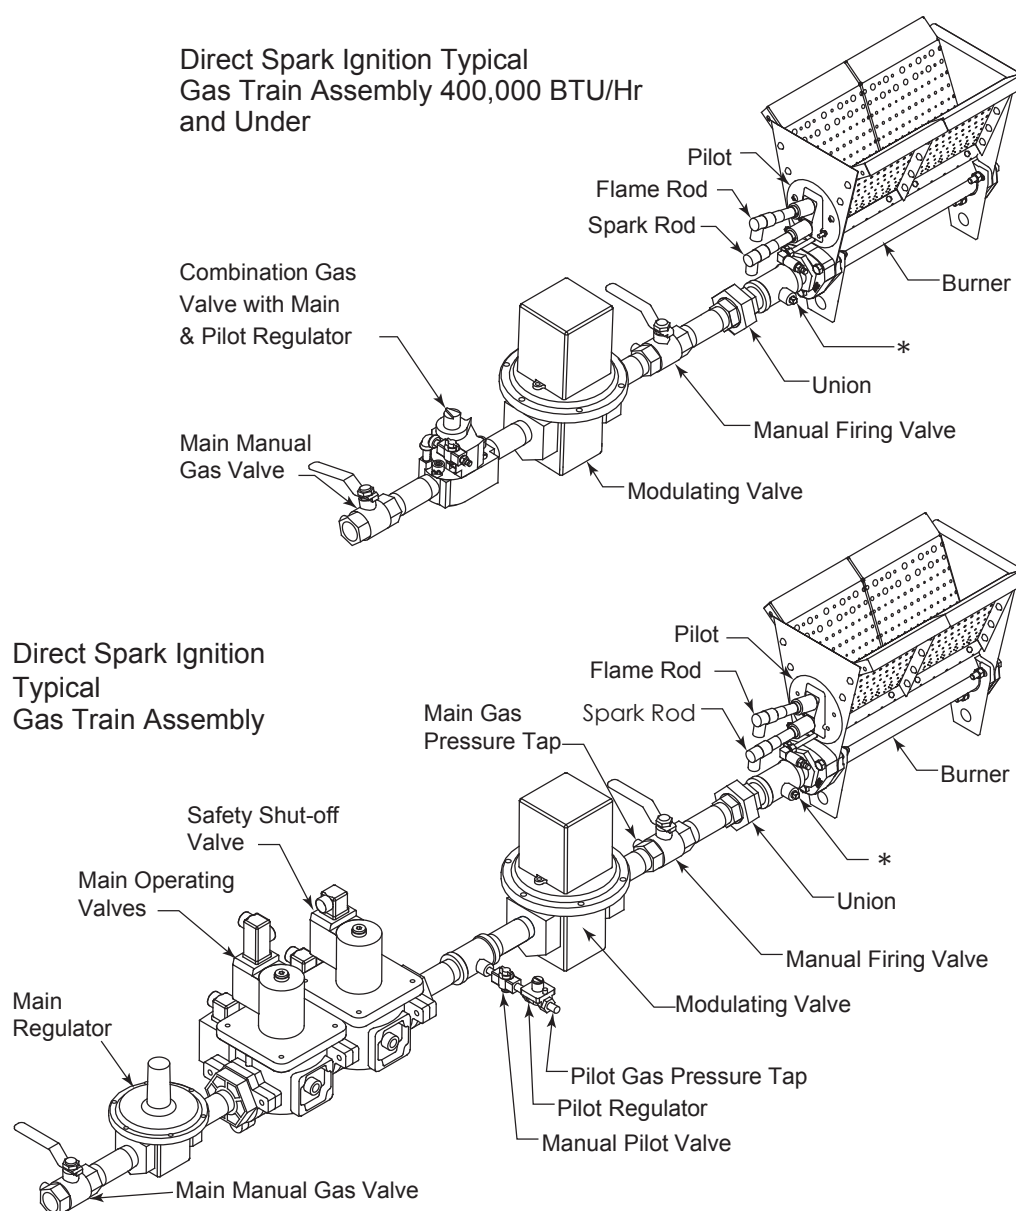

Figure 5b - Direct Spark Gas Train Assemblies
4. For direct spark ignition system when using a pilot for ignition. See Figure 5b.